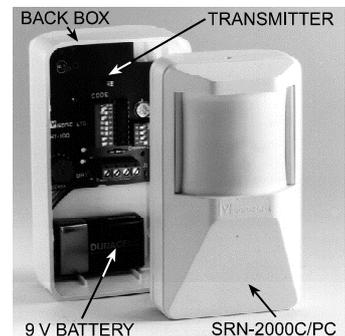

Figure 5. Back Box with Detector
- C. To close the front cover, insert the legs located at the bottom of the base into their respective slots in the bottom of the cover and close by exerting slight upward pressure (Fig. 5).